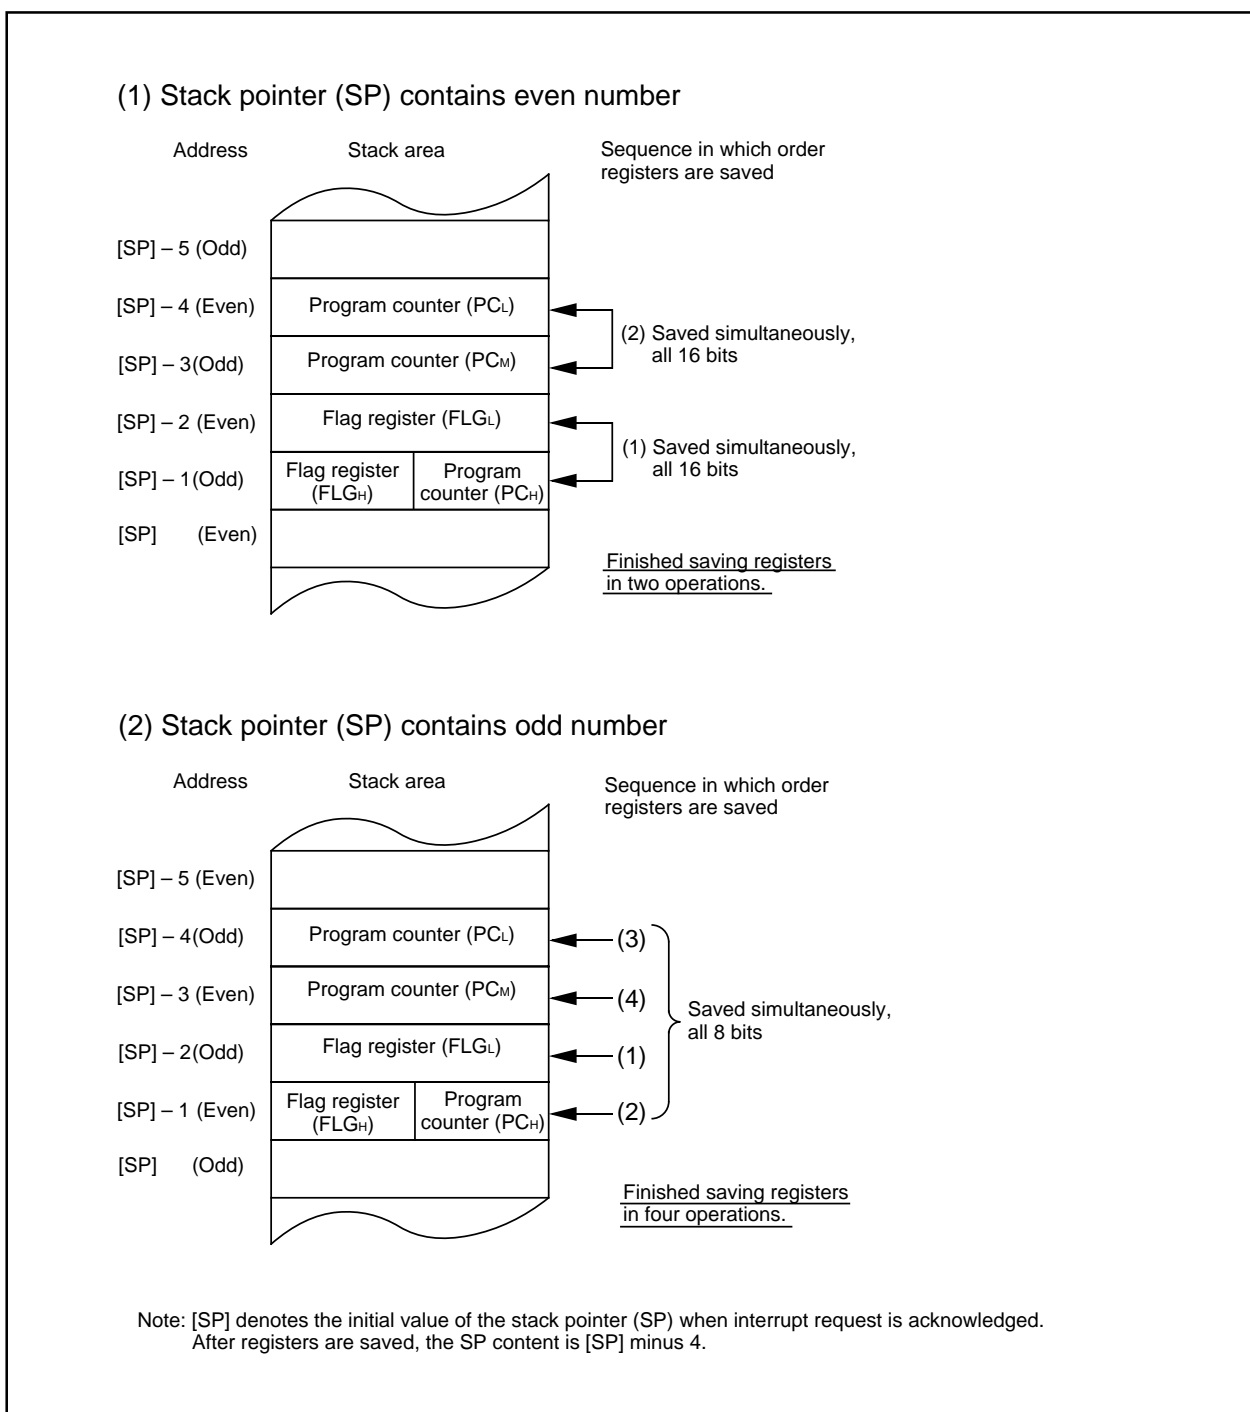

Figure 1.12.7. Operation of saving registers
The operation of saving registers carried out in the interrupt sequence is dependent on whether the content of the stack pointer (Note), at the time of acceptance of an interrupt request, is even or odd. If the content of the stack pointer (Note) is even, the content of the flag register (FLG) and the content of the program counter (PC) are saved, 16 bits at a time. If odd, their contents are saved in two steps, 8 bits at a time. Figure 1.12.7 shows the operation of the saving registers.